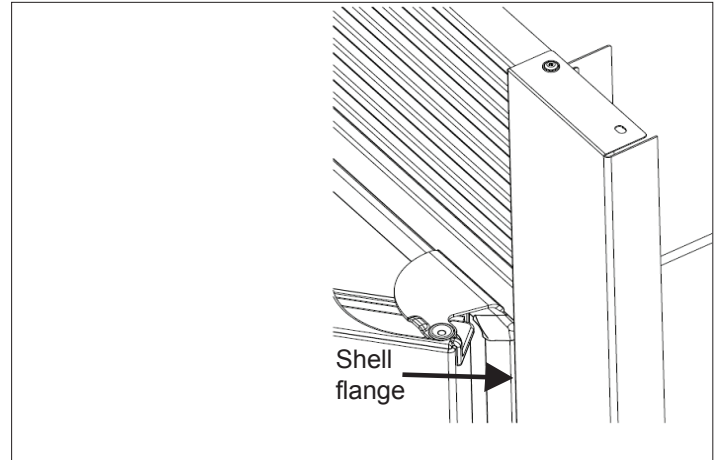

Figure 13a
- c. Align side trim so it is parallel to front shell flange and attach side trim to outer shell with 8 self-drilling screws with Phillips driver. (See Figures 13a & 13b.)